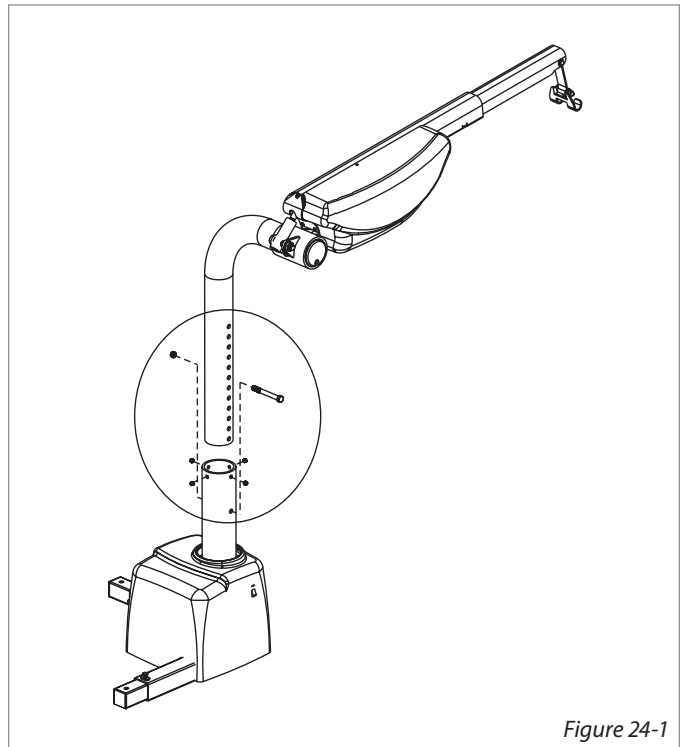

Figure 24-1
- Loosen set screws (x4) [Figure 24-1]